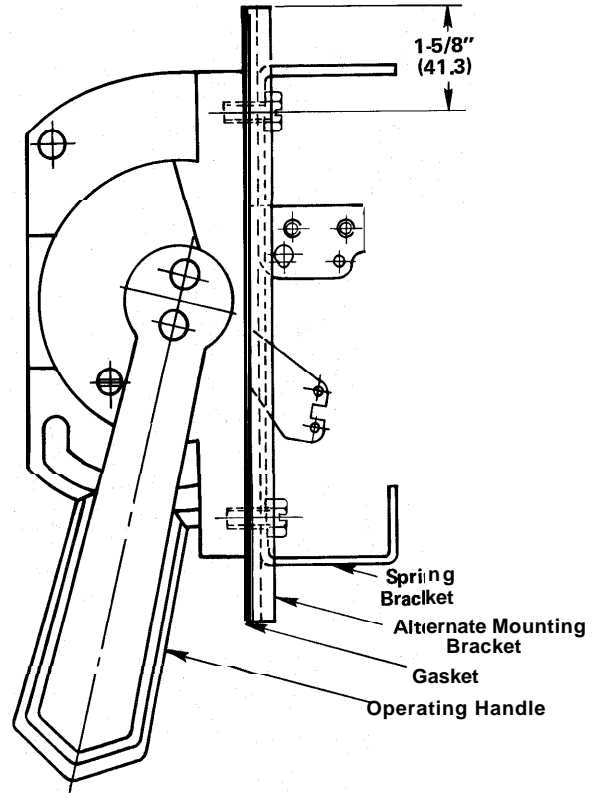

Figure 2
4. Place the flat gasket over the operating handle and against the alternate mounting bracket as shown in Figure 2.